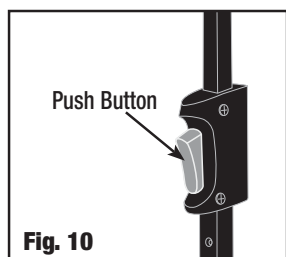

Fig. 10
- Lower the frame one post at a time by pressing the push button located on lower portion of posts. (Fig. 10)